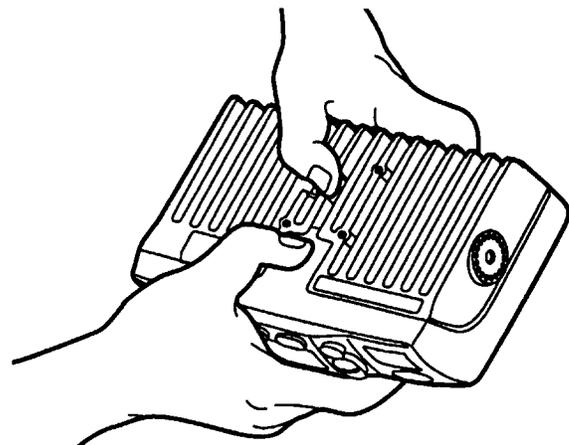

Figure 1-6. Lock Housing Cover into Place
- Firmly press the housing cover and the heatsink together until the cover latch snaps into place (refer to Figure 1-6).